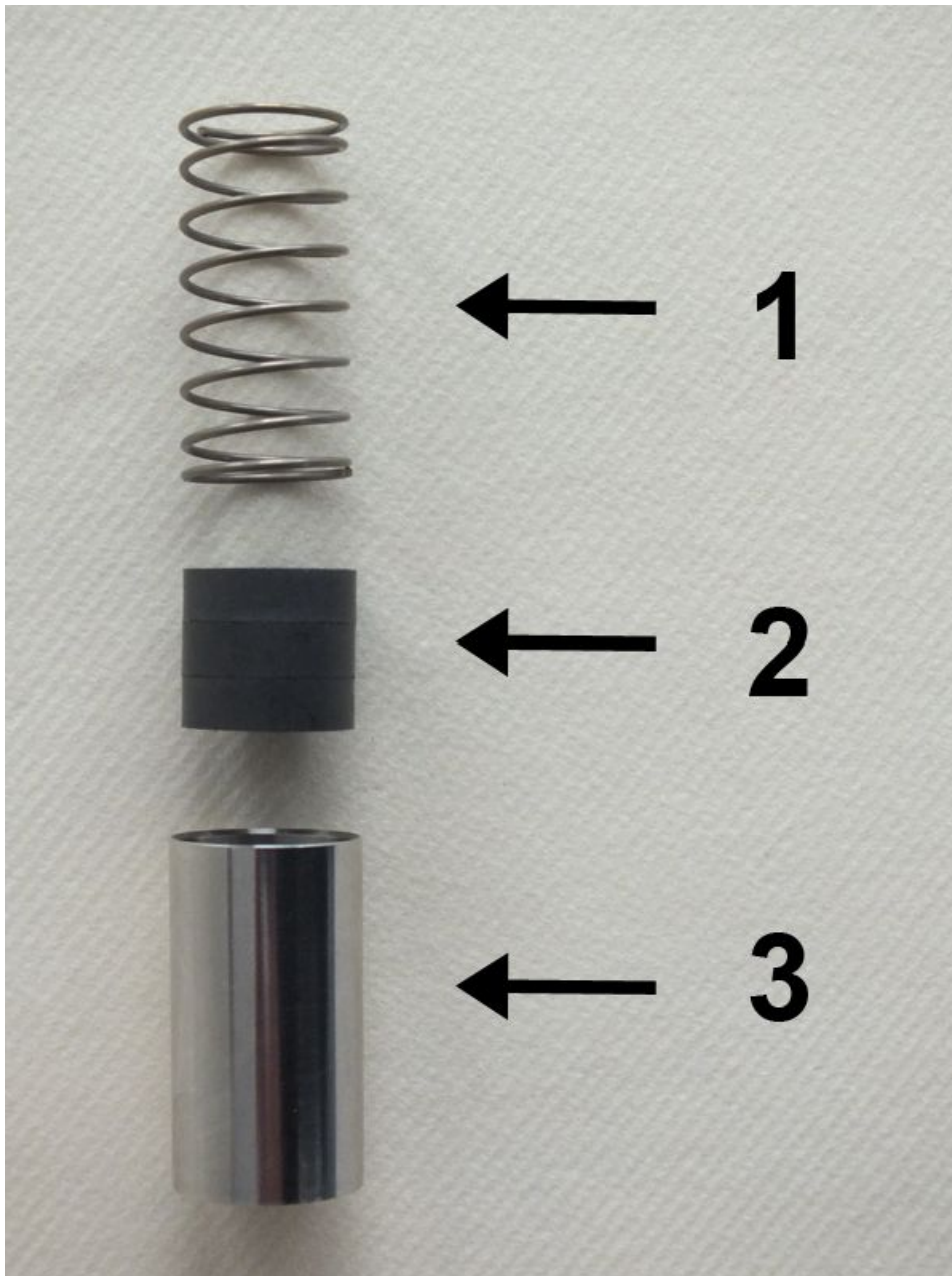

Fig. 48: Inner parts
- 6.** ➤ Insert spring (Fig. 48/1) with magnets (Fig. 48/2) into the float (Fig. 48/3) ensuring proper magnetic pole orientation (north pole toward device outlet).